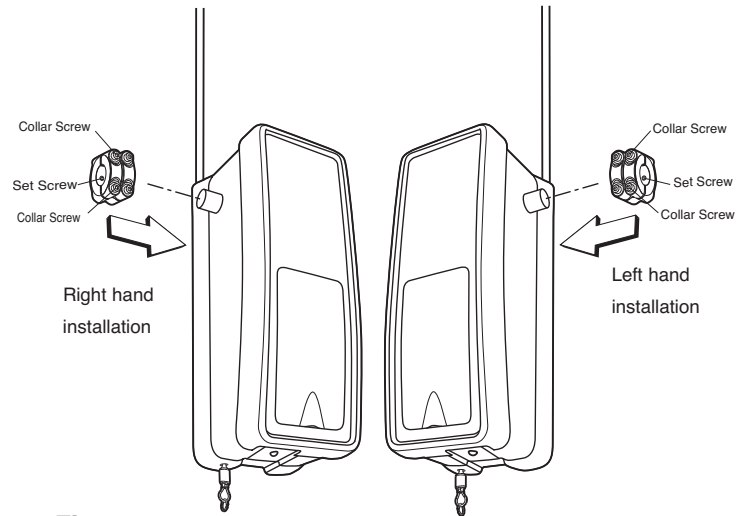

Figure 1
- Attach collar to either the left or the right side of the motor unit. Ensure that the collar is seated all the way on motor shaft until stop is reached (Figure 1).